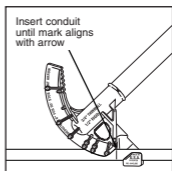

Figure 1
2. Insert conduit through hook at front of bender until your mark lines up with arrow. Please see Figure 1.